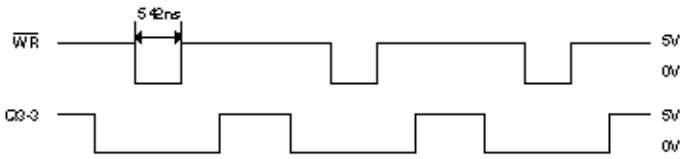

Figure C-3-5
Yes Are WR, and BUS signals of Q3 pin 3 as specified in Figure C-3-5?
- Yes Is 4 pin of Q6 identical to WR signal in Figure C-3-5?